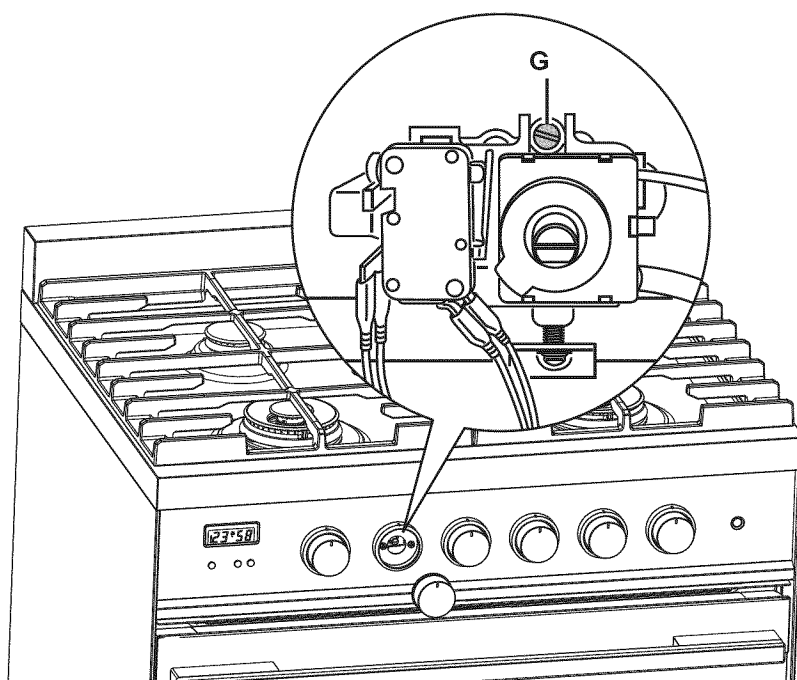

Fig. 2.18
- Remove the knob and unscrew the by-pass screw “G” (fig. 2.18) about three times by passing a small flat screwdriver (Ø 3 mm blade, 100 mm length) through the panel opening.
- After having removed the knob again and being very careful not to turn the tap rod, slowly screw the by-pass screws “G” (fig. 2.18) until you obtain a flame of 3-4 mm in height. The flame should not go out even when passing suddenly from maximum to minimum flame.